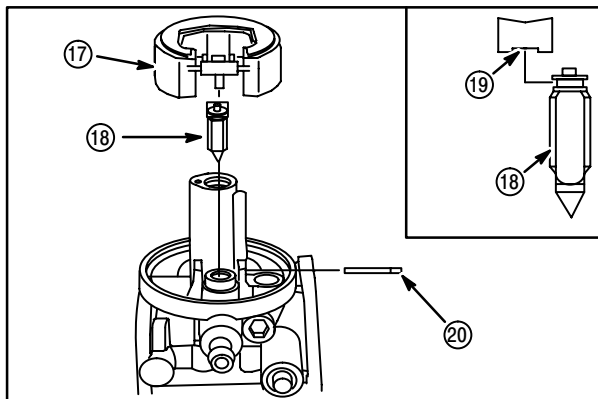

Fig. 54
12. Assemble inlet needle retainer (19) to inlet needle (18). Assemble to float (17), **Fig. 54**.
13. Install float to carburetor body. Install float hinge pin (20) with swaged end out.